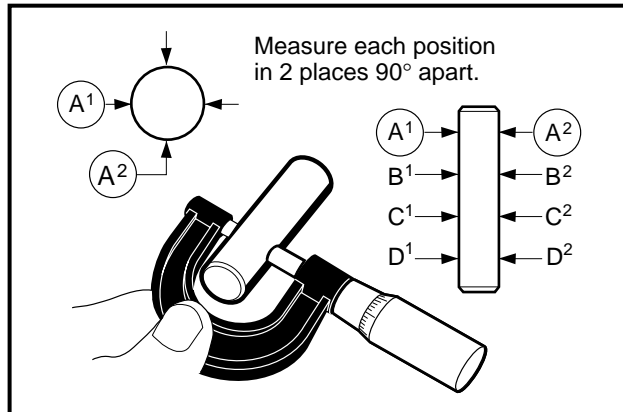

Figure 13-55 Measure Piston Pin O.D.
1. Using a micrometer, measure the outside diameter of the piston pin at several points along its length (**Figure 13-55, Page 13-29**).